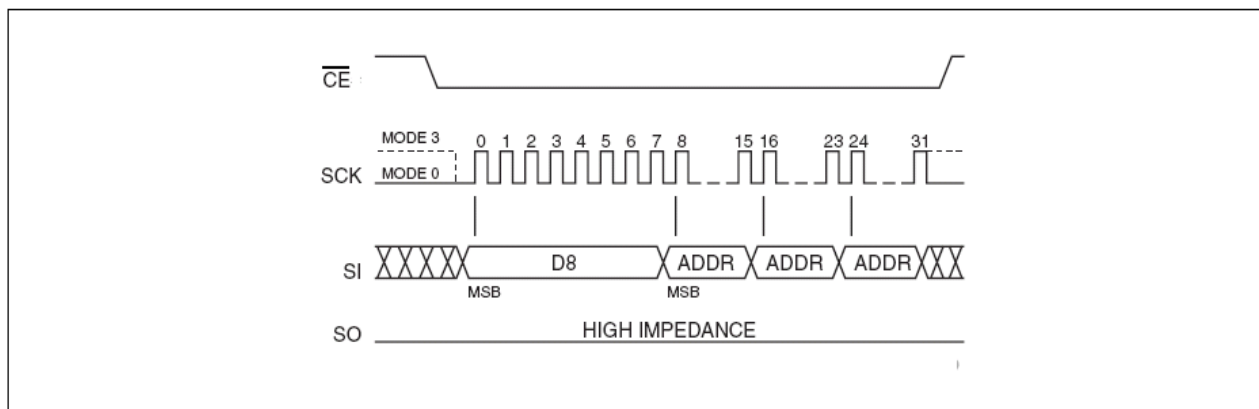

Figure 13: 64K-byte Block Erase Sequence
-A₀]. Address bits [A_{MS}-A₁₆] (A_{MS} = Most Significant address) are used to determine the block address (BA_X), remaining address bits can be V_{IL} or V_{IH}. \overline{CE} must be driven high before the instruction is executed. The user may poll the Busy bit in the Software Status Register or wait T_{BE} for the completion of the internal self-timed Block Erase cycle. See Figure 13 for the Block Erase sequence.